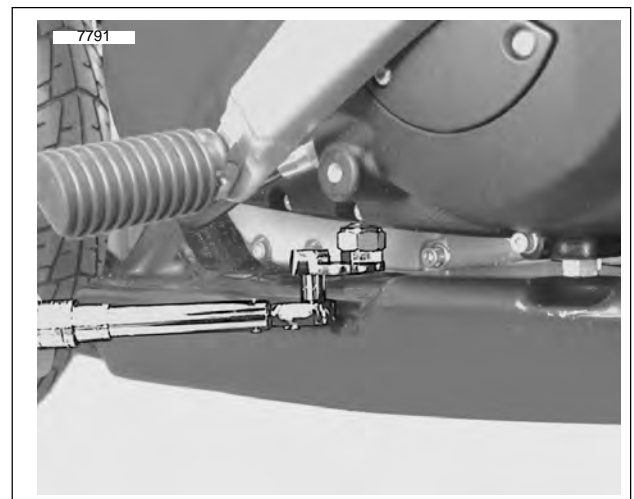

Figure 6-6. Torquing Chain Limiting Screw
2. See Figure 6-6. Tighten chain limiting screw to 24 **in-lbs**.